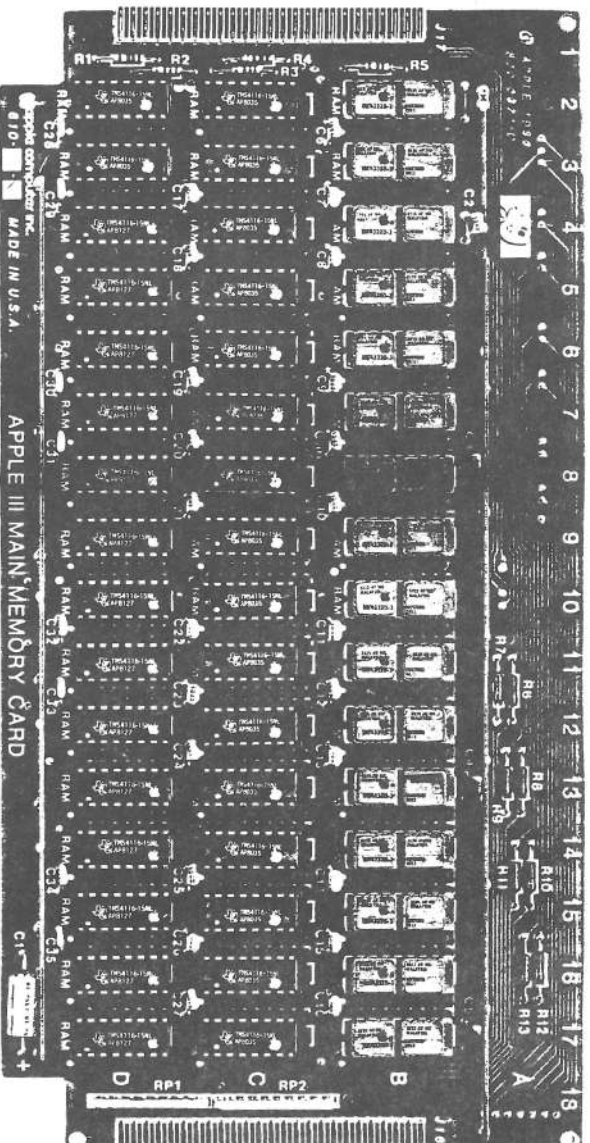

FIGURE 3 - 12V BOARD
4. The test will then check the RAM and report any failures. The 12V test gives RAM locations according to a grid of letters and numbers printed along the side and top of the 12V board (rows B, C, D; columns 2 through 17: see Figure 3).